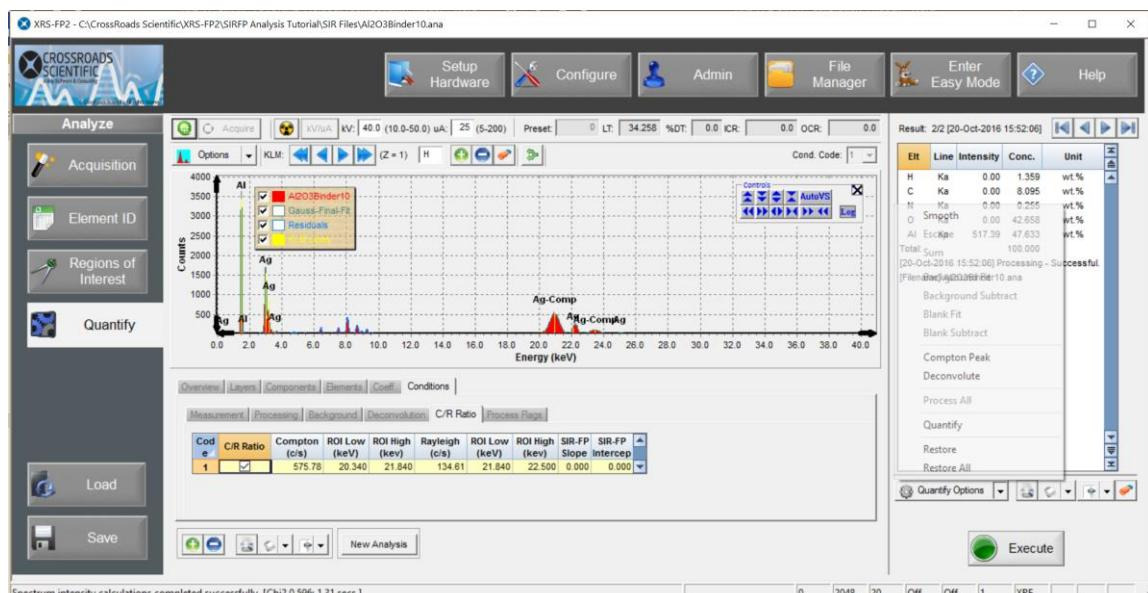

Figure 6. Analyze - Quantify. Data is shown under the Compton and Rayleigh columns after spectrum processing.
16. Now go to the “Model Setup” tab in the R-hand panel (Fig. 6 below). Select the type of model to be used by clicking on the “Ordinate (Y)” drop-down menu button. Select the “Intensity” model in the “Ordinate (Y)” column for this method. The least-squares fitting column “Polynomial” can either be “Linear” or quadratic, which has an additional quadratic term. Use “Linear” for this tutorial (Model #9).
Figure 6. Model Setup for MLSQ Fitting. Under the “Ordinate (Y)” column select the drop-down menu button to select the type of model to be used with this method – “Intensity” (Model 9) in this case.
6. Select the **Home** button and then the **Analyze** button. Then click on the **Quantify** button. From the Quantify Options button in the R-hand panel select the **Process All** option (which performs the full spectrum processing in one step). Notice that there is now data for the Compton (c/s), Compton ROI (keV), Rayleigh (c/s) and Rayleigh ROI (keV) columns in the “C/R Ratio” tab under the “Conditions” tab (see Fig. 6). Note that the Compton (c/s) and Rayleigh (c/s) values may vary due to the background removal during processing.
8. **REPEAT steps 3 - 7 above for ALL the low-Z standards** within the SIR folder. Check that the layer information is normalized to 100% and the C/R Ratio in the Conditions table is checked. Remember to enter the C/R information in the “C/R Ratio” tab under the “Conditions” tab (see Fig. 6 above). Make sure to use the SAME Compton and Rayleigh ROIs for each standard. If necessary, enter the high and low ROI (keV) values for consistency. After processing the spectrum, remember to save the ANA file before moving on to the next standard! The following figures (Fig. 7-10) show screen shots of the XRS-FP2 Methods view for each of the remaining SIR low-Z standards (data shown is after completion of step 8 above for each standard).